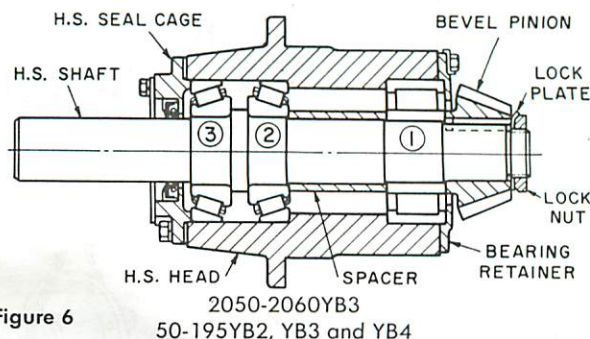
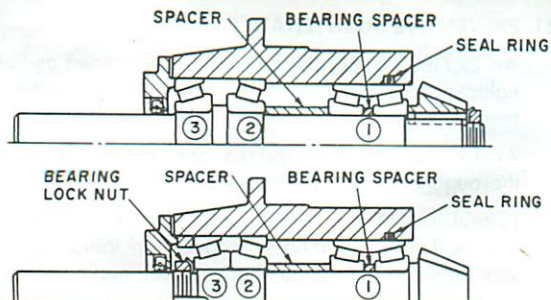

Figure 6
Figure 7 2050-2195YB2 and 2070-2195YB3
CAUTION: The components of Bearing ① in Figure 7 are not interchangeable. Each part is match marked with a serial number and must be assembled accordingly.
12. BEVEL PINION—Figures 6 and 7.
- Refer to Step 9 for bearing instructions. Mount spacer and inner races of bearings on shaft as illustrated in Figure 6 or Figure 7; also outer races of Bearings 1 and 2 in Figure 7.
- Insert outer race of Bearing 2 into high speed head for assemblies shown in Figure 6. Install seal ring in high speed head on assemblies shown in Figure 7.
- Turn high speed head so that the bevel pinion end of the head is up and press the outer race of Bearing 1 into the head. For assemblies shown in Figure 6, fasten the bearing retainer to the head with fasteners coated with an SAE 20 or heavier mineral oil. Use lock plates. Tighten fasteners to torques shown in Table 6. Bend lock plates over the inner bearing retainer and fastener heads. For assemblies shown in Figure 7 fasten oil dam and gasket to the head with flat head fasteners. Stake each fastener in three spots to lock.